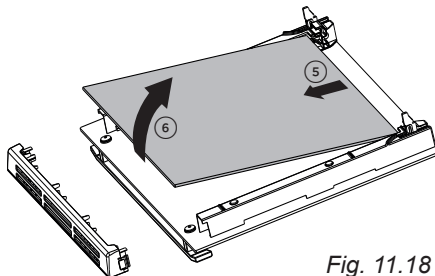

Fig. 11.18
- Gently close the door (fig. 11.18) until left and right hinge levers "A" are hooked to part "B" of the door (fig. 11.13).
- Gently lift and pull out the middle pane of glass by releasing it from the bottom retaining notches (fig. 11.18).